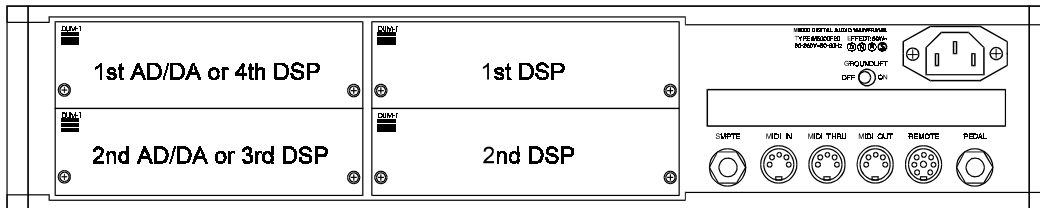

fig. 1
With one RS485 INTERFACE (MULTAC) you are able to connect one or two M5000/X frames. The M5000/X's are to be connected to the M5000/X #1 and #2 plugs (Fig.1).
4. Insert the module as shown in figure 1 below.